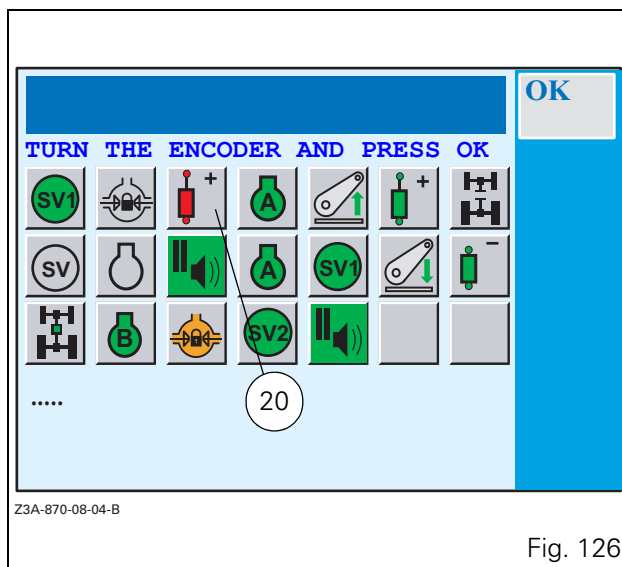

Fig. 126
- Select the action to insert by rotating the encoder. The question mark is replaced by an action (e.g.: 20 Fig. 126).